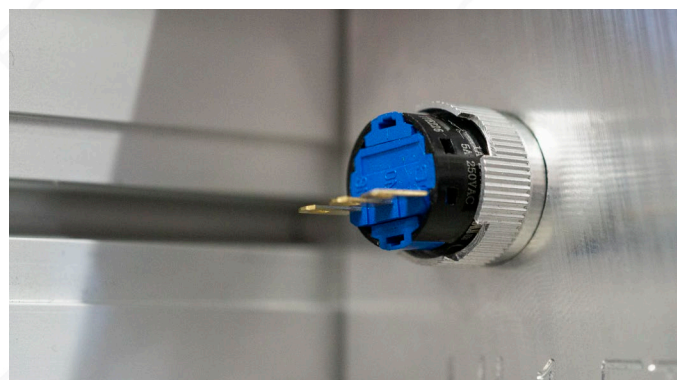

Fig. 29: Emergency stop switch, view from behind
- Mount the emergency stop switch in the hole provided in the front face plate, as shown in Fig. 29.